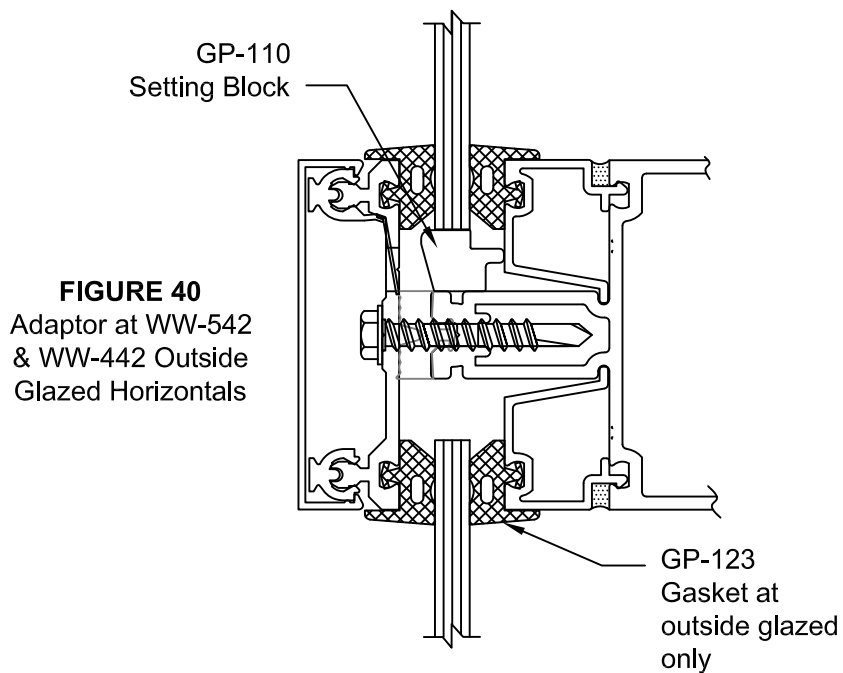

FIGURE 40
- T.4 Exterior glazed horizontal WW-442 and WW-542 require glazing adaptor WW-175 for 1/4" glazing. SEE FIGURE 40